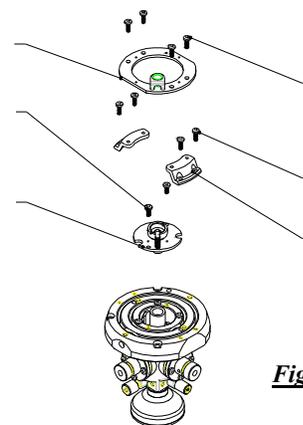

Figure 9
5-6-16, 5-6-17, and 5-6-18 are not shown. Reference figure 9 for detail
- Using a Phillips screwdriver, remove 4 cross-slot plate screws M2×5 (5-6-17) and disassemble 2 brackets 2 (5-6-18). Reference see figure 9.